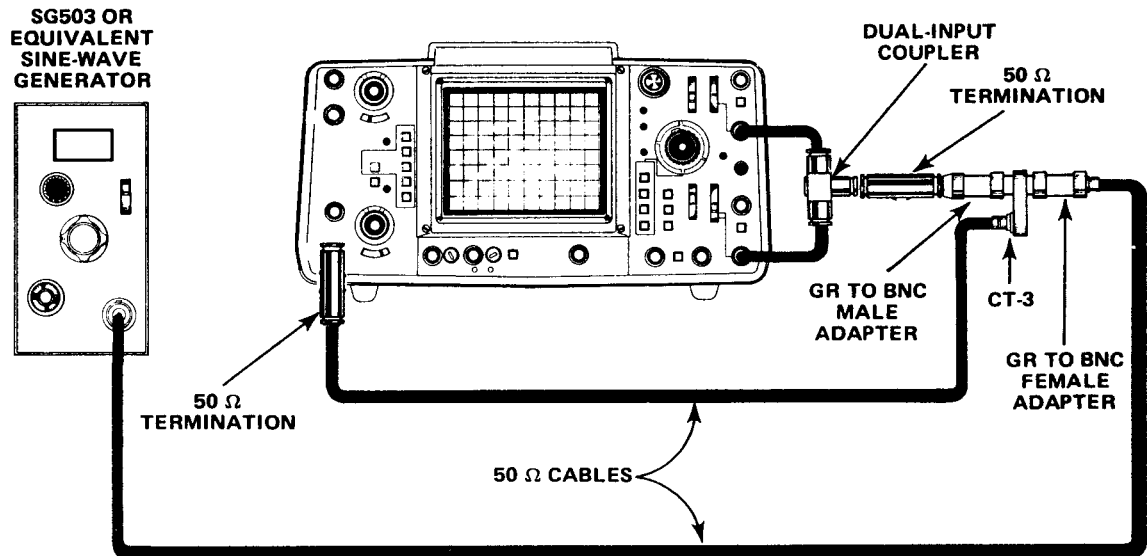

Figure 5-21. External trigger centering setup.
(15) Set CH 1 VOLTS/DIV to 5 m and A AND B TIME/DIV to 5  $\mu$ s.
(16) Repeat step (12) above.
(17) Disconnect the generator.
**n. External Trigger Centering (Figures 5-21 and 5-22).**
(1) Set controls as follows: